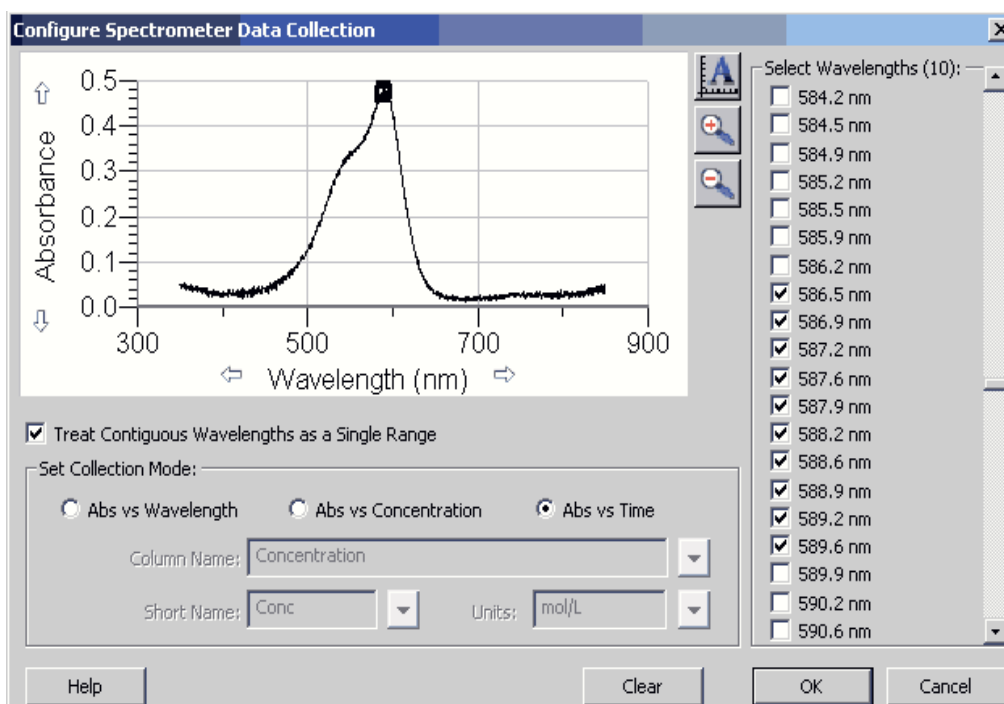

Figure 7. Averaging over several wavelengths to obtain better precision.
2. Click Abs vs. Time (under the Set Collection Mode). Click on Treat Contiguous Wavelengths as a Single Range. The wavelength of maximum absorbance will be automatically selected. First, if you don't want to use this automatic wavelength, press the Clear button. We want to average over a range of wavelengths for better precision, Figure 7. To average over a range of wavelengths, drag the mouse on the spectrum to select the analysis wavelengths. You should select at least 5 wavelengths on both sides of the maximum. In choosing a wavelength range, you should choose a narrow enough range that the absorbance is relatively constant (i.e. a relatively "flat" region near the maximum). Alternatively you can Scroll the Select Wavelengths list box to a wavelength near your absorbance maximum and then click on about 5 wavelengths on both sides of the maximum. Click OK.